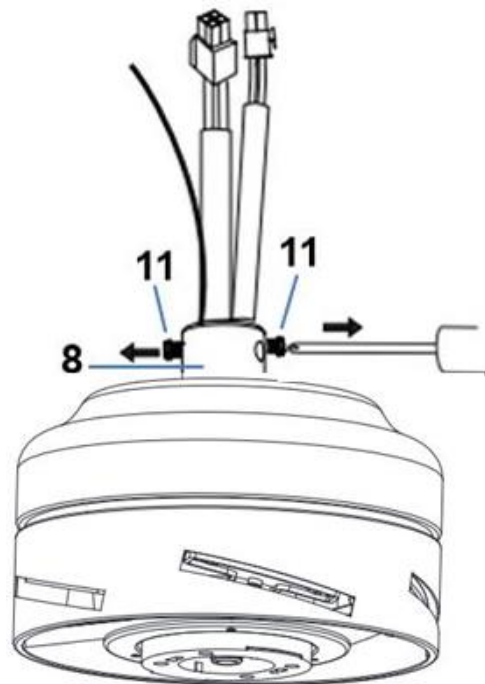

Fig. 4.2
2. Loosen the set screws (11) on the down rod coupling housing (8). (Fig. 4.2)